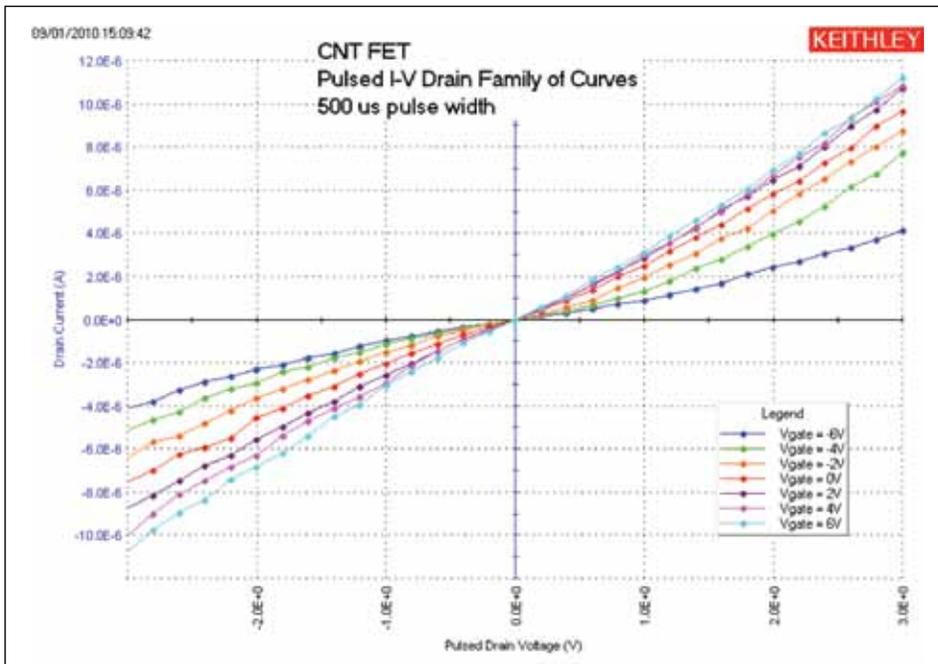

Figure 8. Pulsed I-V drain family of curves of CNT FET
*Figure 8* illustrates a pulsed I-V drain family of curves taken with the Model 4225-PMU. For this measurement, a pulse width of  $500\mu s$  was used to generate the curves. However, each PMU channel has the ability to output voltage pulses as short as  $70ns$  with a rise time as short as  $20ns$ . The minimum duration of the pulse width will depend on several factors, including the test circuit RC time constant and the magnitude of the test current. Each dot on the curves represents a “spot mean” measurement on the pulsed waveform.
The Model 4225-PMU has five ranges full scale from  $800mA$  down to  $100\mu A$ . To measure lower currents, using the Model 4225-RPM optional Remote Amplifier/Switch is recommended because it adds six measurement ranges, down to  $100nA$  full scale. The pulsed I-V curves shown in *Figure 8* were taken on the  $100\mu A$  range. The threshold current was set to  $20\mu A$  so that the test will stop if the threshold current level is reached.